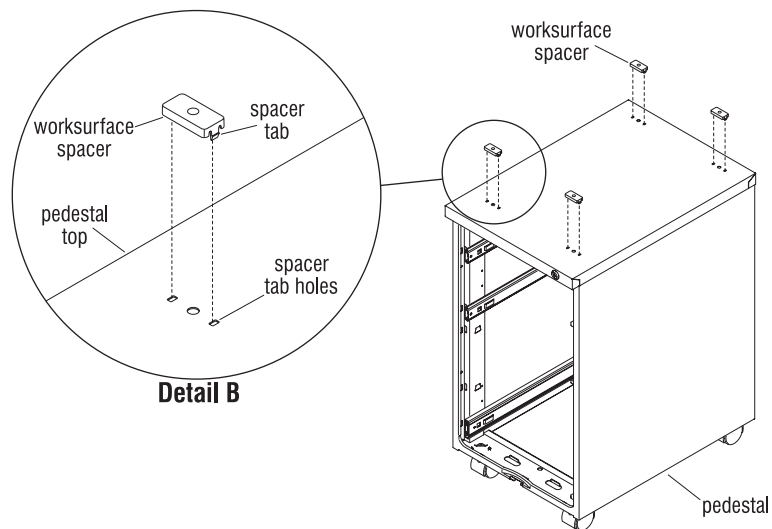

Figure 3
8. Next, attach worksurface spacers to the top of the pedestal by inserting both spacer tabs into the spacer tab holes. The worksurface spacer snaps in place once the spacer tabs are seated (Figure 3 & Detail B).